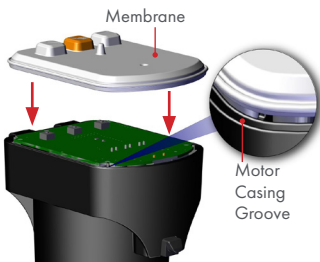

Figure 8
8. Install the **Membrane**. Make sure it seats squarely in the **Motor Casing Groove**. **FIG 8**